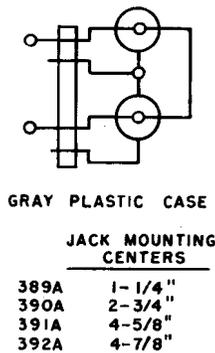

Fig. 13—389A, 390A, 391A, or 392A Plug
2.13 **389A, 390A, 391A, and 392A:** The 389A, 390A, 391A, and 392A plugs (Fig. 13) consist of a pair of coaxial plug fingers mounted in a case of insulating material. The center and outer contacts of
one finger are connected to the corresponding contacts of the other finger. The plugs have a 75-ohm characteristic impedance and are not for cord or cable connections. The plugs are used with the 477- or similar-type jacks mounted on various centers as specified in Fig. 13. They are used with the automatic switching equipment in the TD-2 Radio System.